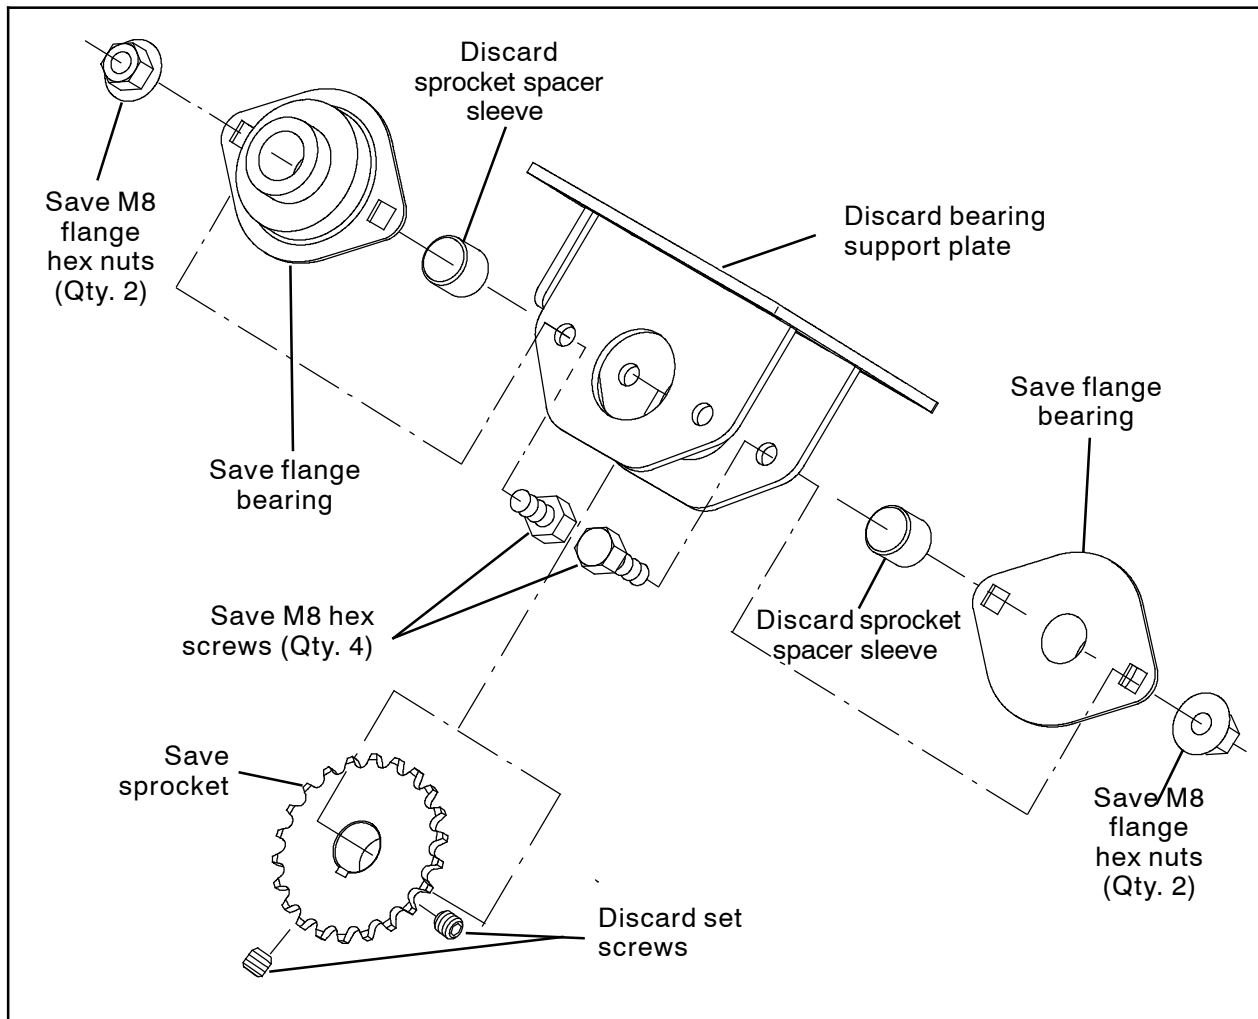

FIG. 6
7. Disassemble all parts from the bearing support plate removed in the previous step. Set the both flange bearings and the sprocket aside. Discard the two set screws, the two sprocket spacer sleeves, and bearing support plate. (Fig. 6)